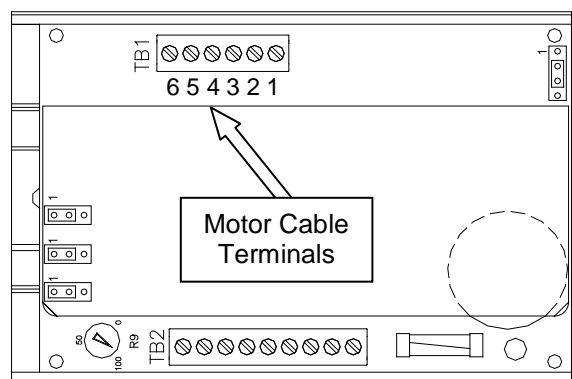

Figure 3-183. TM4500 Configuration
- c. On the right-rear corner of the drive are the motor cable terminals. Check continuity between terminals 1 and 2, 1 and 3, and 2 and 3. Also check continuity between terminals 4 and 5, 4 and 6, and 5 and 6 (refer to Figure 3-183 for terminal identification). If all six tests for continuity pass, the motor is not faulty and other troubleshooting techniques need to be followed. (Refer to **Pressure Jaw and Film Feed Motor Controllers** on Page 3-1 for information on how to check the stepper drive).